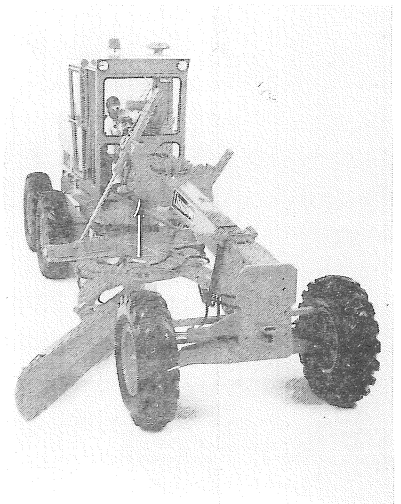

Figure 3
4. Repeat step 2 above with the right hand cylinder, but this time extend the cylinder to position the right hand arm as shown in Fig. 3.